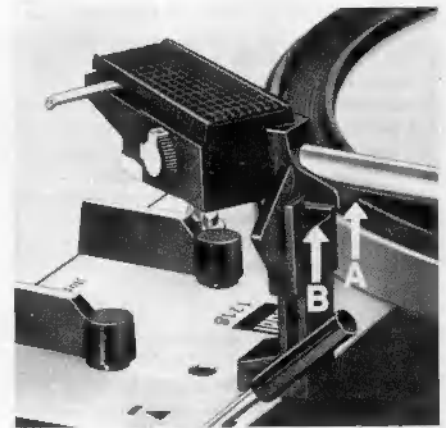

Fig. 15
3. If the tonearm does not come to rest perfectly horizontal, loosen set-screw (F) and slide the counterbalance (with its shaft) until you achieve an approximate balance. Then tighten the set-screw again.
4. You can now get an exact balance by turning the counterbalance. The tonearm is precisely balanced when edge "A" of the tonearm head and edge "B" of the tonearm rest are at equal height (Fig. 15) or when the tonearm returns by itself to a horizontal position after the chassis is tapped.